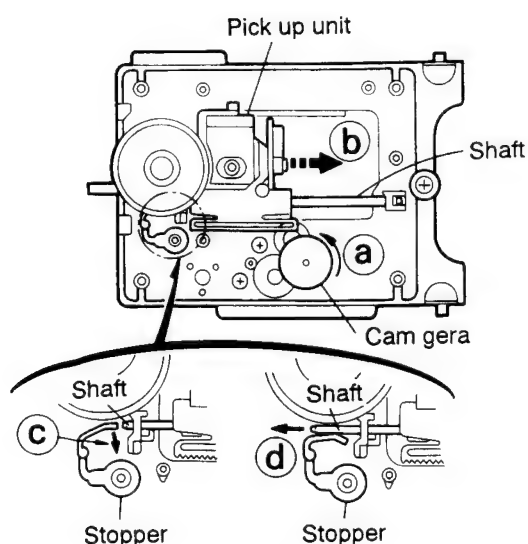

Fig. 5-34a
■ Removing the CD pickup unit (See Fig. 5-34a)
2. According to the above step, shift the CD pickup unit to the center position (Fig. 5-34a).
3. While pressing the stopper retaining the shaft in the arrow direction (c), pull out the shaft in the arrow direction (d) (See Fig. 5-34a).